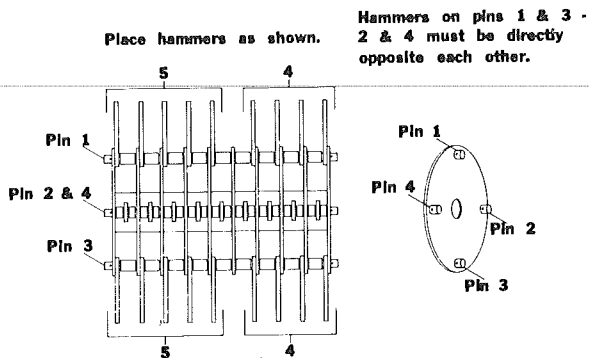

FIGURE 57 - PROPER HAMMER SPACING
**DO NOT** pull more than one rod at a time to avoid mix-up. Serious vibrations will occur if hammers are replaced in wrong positions. See figure 57 for proper hammer spacing on each of the four shafts.